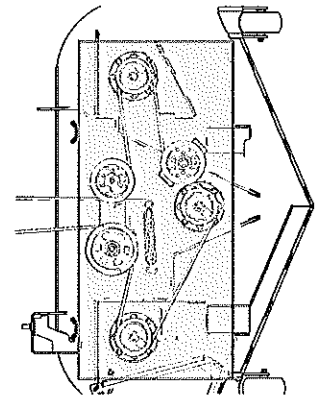

Figure 36
- Clean the top of the mower deck, under the spindle covers and belt area. See Figure 36.